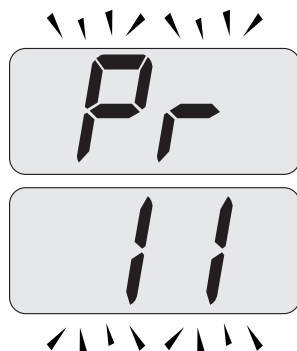

Fig. 7.25
- Scroll the various parameters using keys 12 or 13 until the letters **Pr** that alternate with code **11** are displayed on the LCD display, indicating that "parameter 11"(Fig. 7.25) has been activated.
- Press keys 11 and 12 (Fig. 7.23) at the same time to exit without changing the value (return to the parameters list Fig. 7.25)